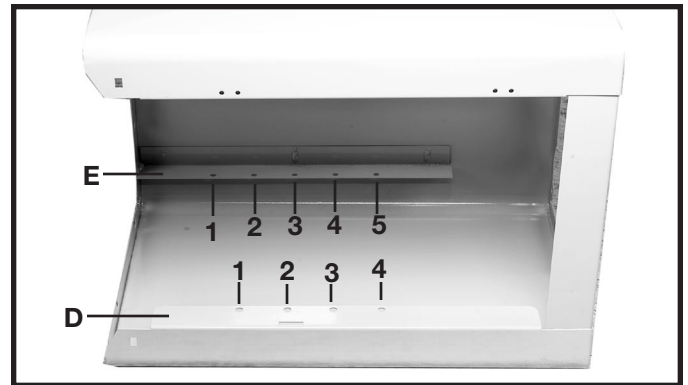
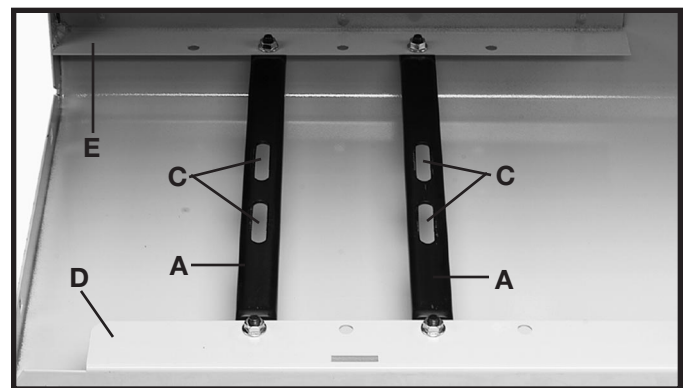

Fig. 6
Fig. 7
1. Place the stand base on its side as shown in Fig. 6.
2. Align the two holes in the motor bracket (A) Fig. 7, with the two holes in the stand. **NOTE: ATTACH MOTOR BRACKETS TO HOLES #1 AND 3 IN FRONT STAND FLANGE (D) FIG. 6, AND HOLES #2 AND 4 IN BACK STAND FLANGE (E).**
**NOTE: MAKE SURE THE SLOTS (C) FIG. 7, IN THE MOTOR BRACKET (A), ARE POSITIONED CLOSER TO THE OPENING OF THE STAND (D) THAN THE BACK PANEL (E) OF THE STAND.**
3. Insert a 5/16-18x3/4" carriage head bolt through the hole in the motor bracket (A) Fig. 7, and the hole in the stand.